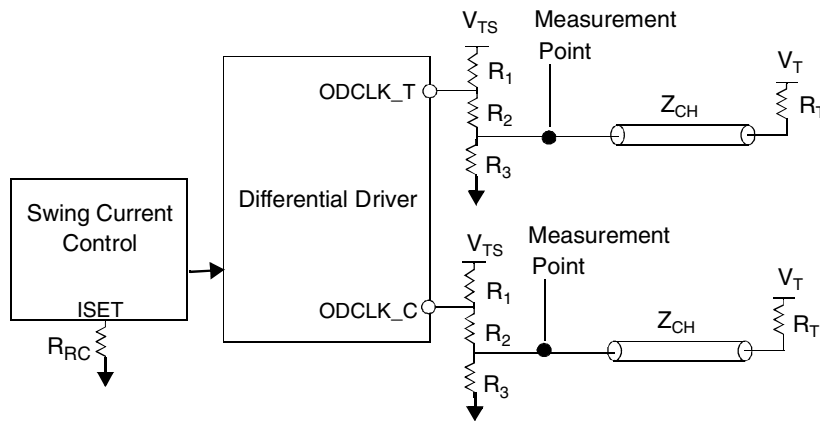

Figure 2. Example System Clock Driver Equivalent Circuit
- 1 When using singled-ended clock input, V_{TH} is supplied to CLK_INT as shown in Figure 2.
Figure 2 shows the clock driver equivalent circuit. The differential driver produces a specified voltage swing on the channel by switching the currents going into ODCLK_T and ODCLK_C. The external resistor R_{RC} at the IREFY pin sets the maximum current. The minimum current is zero.
The driver output characteristics are defined together with the external resistors, R_1 , R_2 , and R_3 . The output clock signals are specified at the measurement points indicated in Figure 2. Table 5 shows example values for the resistors.
- 1 A different set of resistors is used in Figure 2 when testing for maximum output current of the clock driver (I_{OLABS}). These resistors are: $R_1 = 34\Omega$, $R_2 = 31.8\Omega$, $R_3 = 48.7\Omega$, $R_T=28\Omega$, $R_{RC} = 147\Omega$
For a singled-ended clock input, an external voltage divider and a supply voltage, as shown in Figure 2, provide a reference voltage V_{TH} at the CLK_INC pin to determine the proper switching point for CLK_INT. The range of V_{TH} is specified in the **DC Characteristics – Inputs** table.